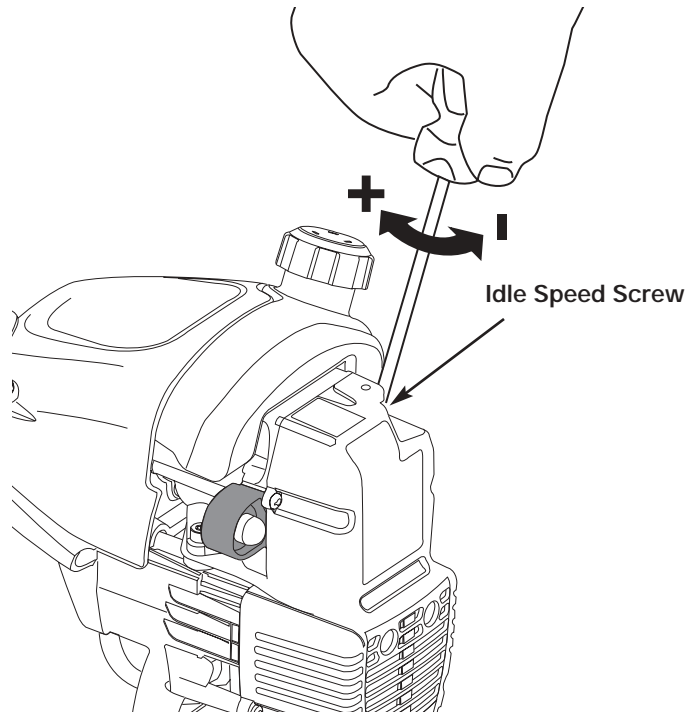

Fig. 41
The idle speed of the engine is adjustable through the air filter/muffler cover (Fig. 41).
2. Release the throttle trigger and let the engine idle. If the engine stops, insert a small phillips or flat blade screwdriver into the hole in the air filter/muffler cover (Fig. 41). Turn the idle speed screw in, **clockwise**, 1/8 of a turn at a time (as needed) until the engine idles smoothly.